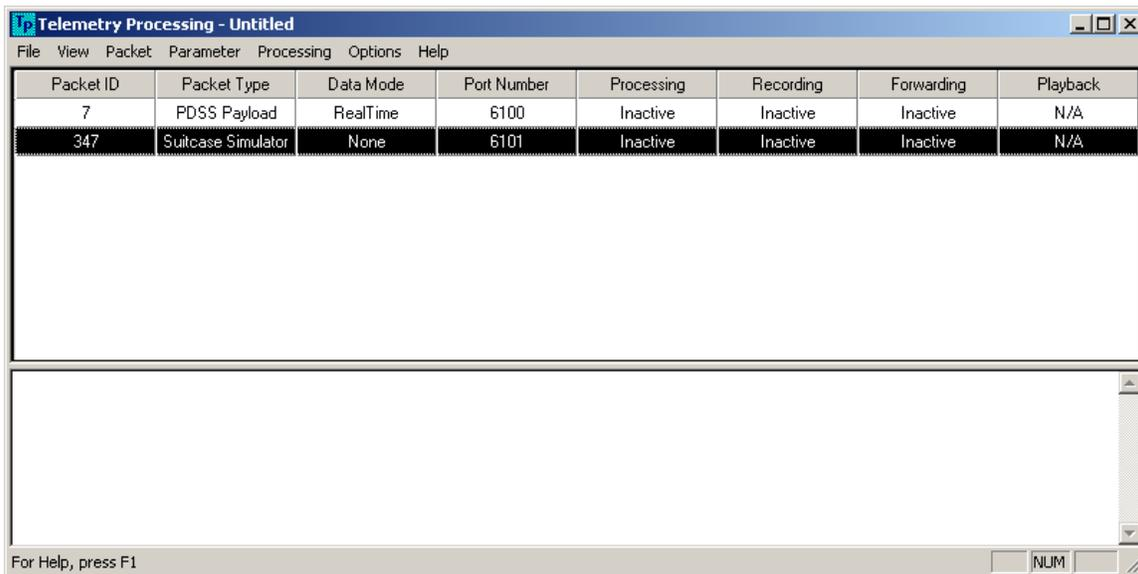

Figure 4 Packets 7 and 347 in the Packet List
- When you are done entering this information push the **OK** button. You should now see a PDSS Payload Packet 7 and Suitcase Simulator Packet 347 in the main window packet list as shown in Figure 4.